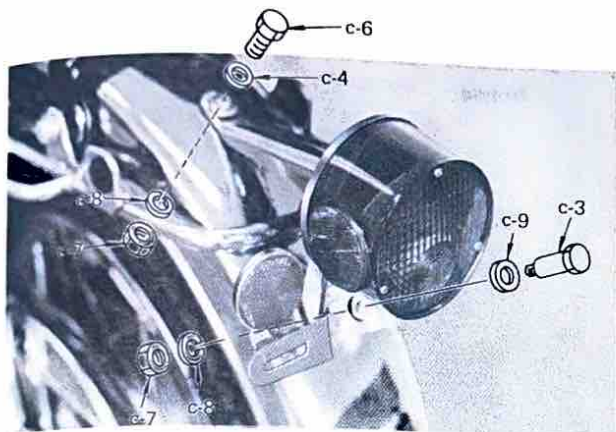

Fig. 41
33. Secure the front part of the license bracket using the bolt (c-6), leg shield washer (c-4), spring washer (c-8), and nut (c-7) contained in the vinyl bag (c). (Fig. 41)
34. Secure the rear part of the license bracket using two shoulder bolts (Bolt A)/(c-3), plain washers (c-9), spring washers (c-8) and nuts (c-7) contained in the vinyl bag (c). (Fig. 41)
35. Install the right and left rear flasherlights (10), and negative lead wires (b-6) using rear flasher collar (b-1), flasher damper (b-2), special washer (b-3), spring washer (b-4), and nut (b-5) contained in the vinyl bag (b).